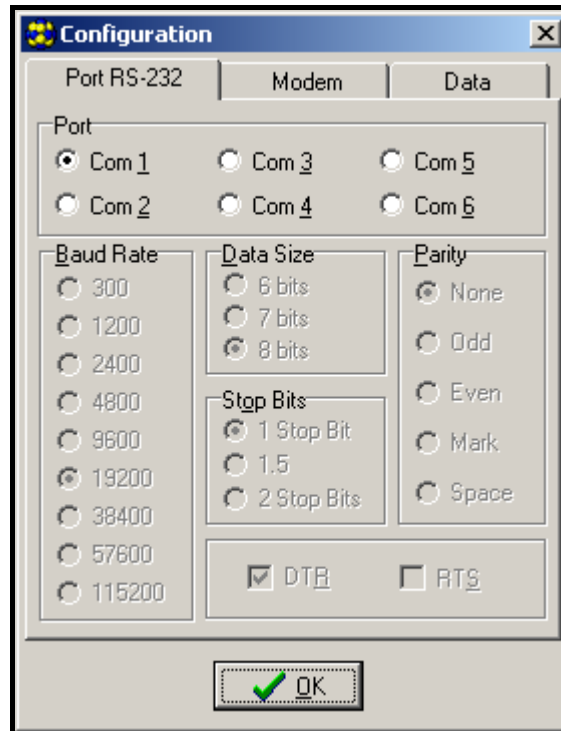

Figure 10.
3. Enter the option of module communication settings by clicking on the  icon (or through the **Communication → Configuration** menu) and select the port through which the computer connects with the module RS-232 port (see figure 10).